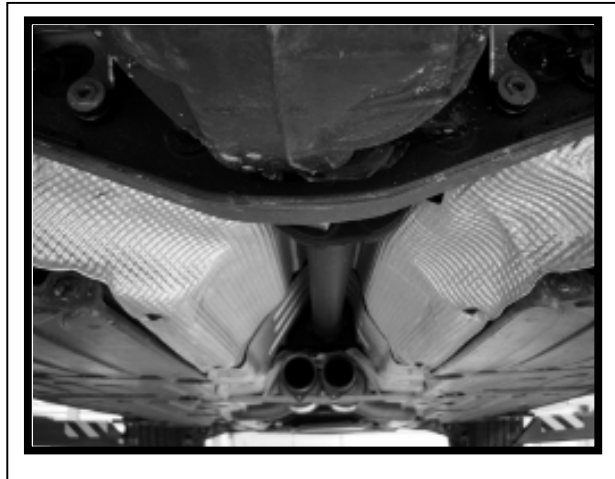

FIGURE 10-12
15.0 EXHAUST REMOVED. (FIGURE 10-12)